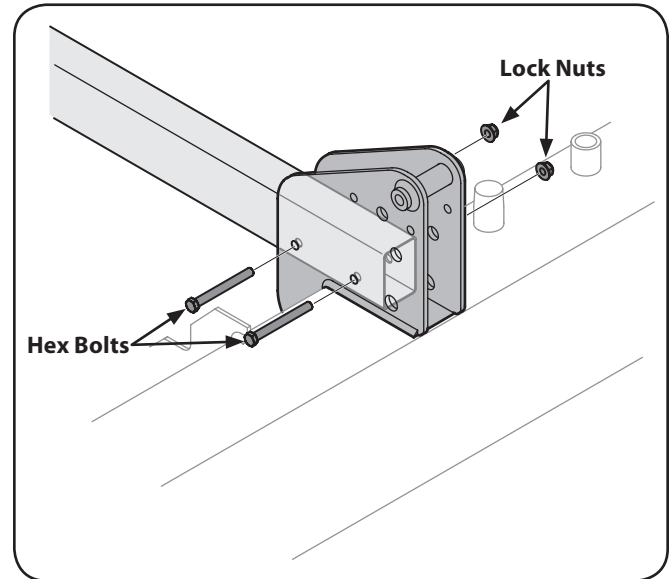

Figure 3-6
1. Remove the two hex bolts and lock nuts on the front of the reservoir tank. See Fig. 3-6.
2. Place the tongue in position and secure with hardware just removed. See Fig. 3-6.